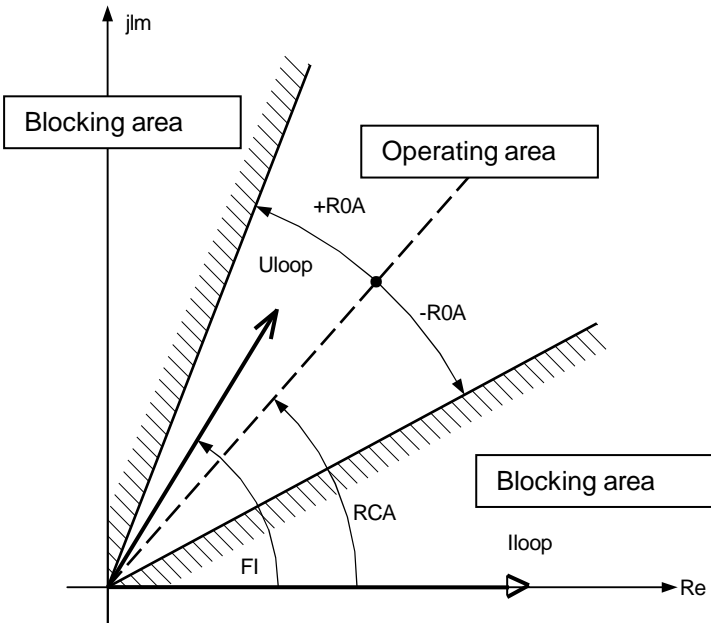

Figure 1-4 The directional decision
*Figure 1-4* below shows that the considered voltages are „loop” voltages and the considered currents are „loop” currents. The indicated operating range is valid if the “Direction” parameter is set “Forward”. If the direction parameter is set “Backward then the operation range is mirrored to the origin of *Figure 1-4*. The setting “NonDir” for this parameter means that only the magnitude of the current is considered, the phase angles are neglected.